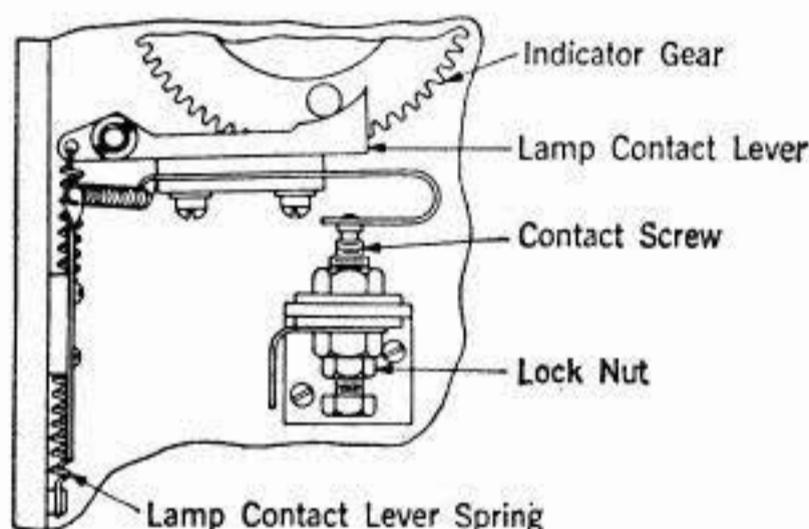

Fig. 10
3.27 The **indicator lamp** should light on the 64th or 65th character perforated from zero. **Fig. 10**